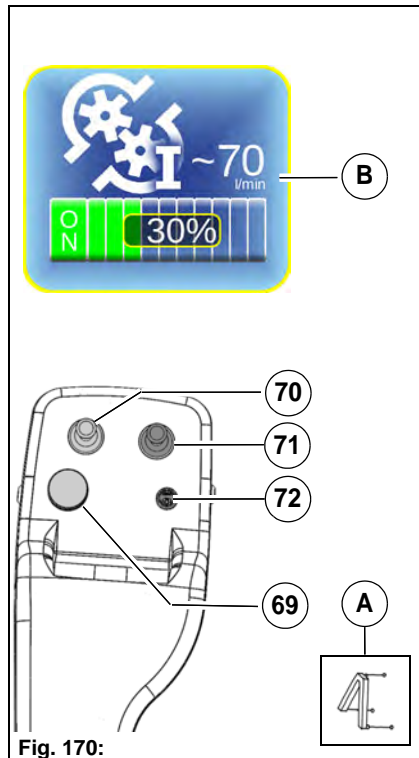

Fig. 170:
1. Switch on the work mode with the Hako button **Fig. 170-72**. The accelerator pedals must be in the neutral position. The coupling triangle work mode symbol appears in the multifunctional display **Fig. 170-A**.
2. Set the oil flow to 70 litres/min with the turn-push knob **Fig. 170-69** in the configuration menu of the multifunctional display in the front tool carrier menu item. In the working menu switch the hydraulic circuit I for front attachments **Fig. 170-B** on and set it to maximum 70 litres/min.